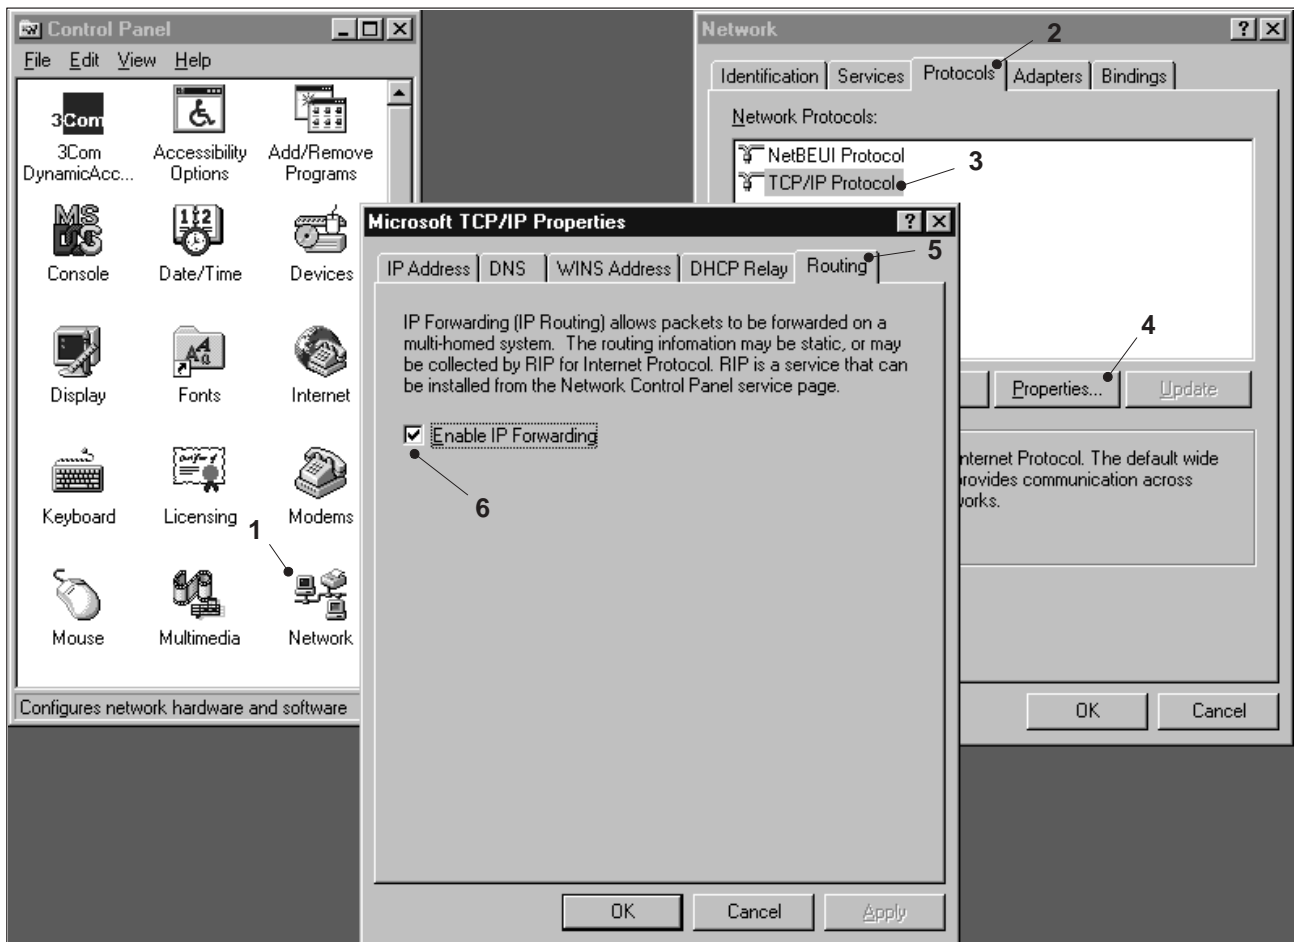

Fig. 16 TCP/IP Properties
- ② Open the "Control Panel" dialog box by clicking the buttons **Start>Settings>Control Panel**.
- ③ Click on the **Network** symbol (Fig. 16/1).
- ④ Click **Protocols** (Fig. 16/2) on the property tab.
- ⑤ Click on the line **TCP/IP Protocol** (Fig. 16/3).
- ⑥ Click on the **Properties** button (Fig. 16/4).
- ⑦ Click **Routing** (Fig. 16/5) on the property tab.
- ⑧ Click on the rectangle in front of the line **Enable IP Forwarding** (Fig. 16/6).